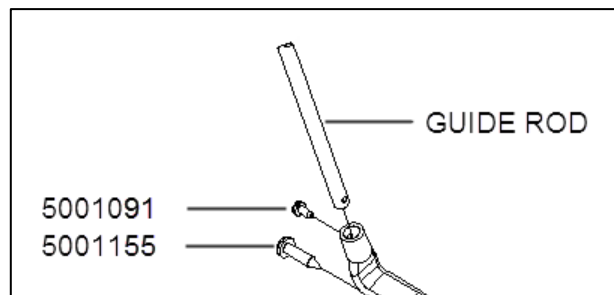

Figure 2
2. Inspect the guide rods. If they are bent or damaged, replace as required. Refer to part list and Fig. 2 for hardware and guide rod part numbers.